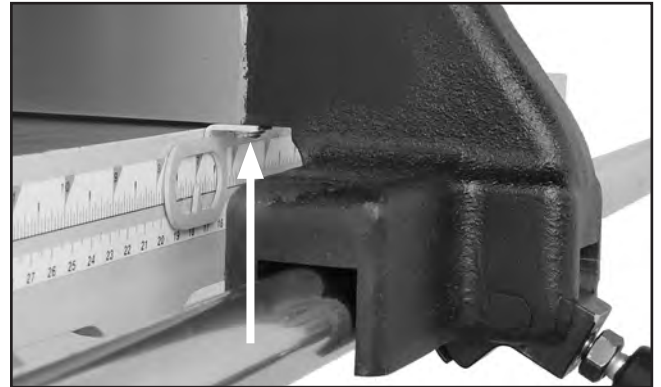

Figure 36. Location of fence pointer adjustment screw.
3. Loosen pointer adjustment screw (see **Figure 36**) and set pointer in line with "0" and measurement scale on table.